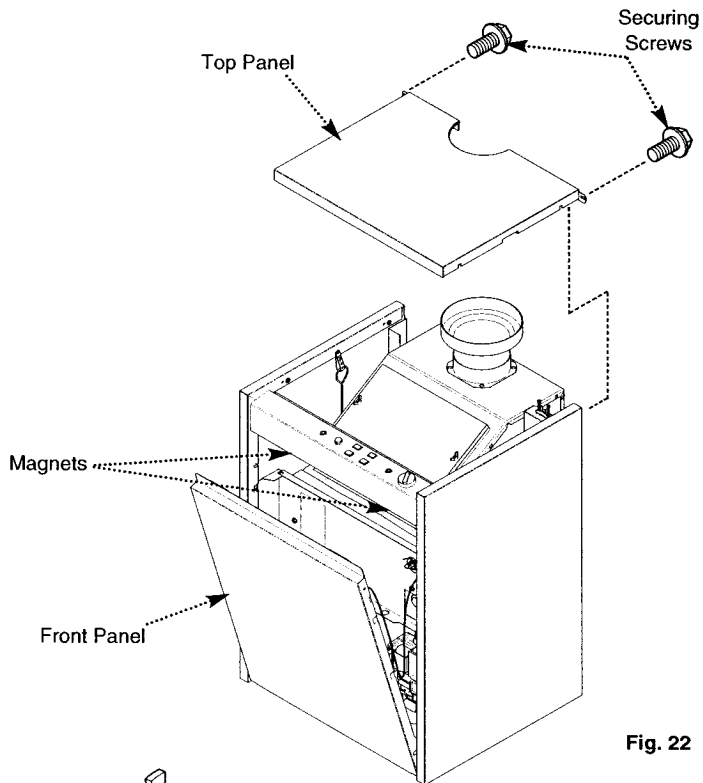

Fig. 22
5. Undo the two securing screws from the rear of the top panel. Remove the panel (Fig. 22).
6. Disengage the front panel from the retaining magnets and hinge forwards. Unhook the panel from the lower hinge pins (Fig. 22) and place to the right hand side, taking care not to stretch the earth wire.